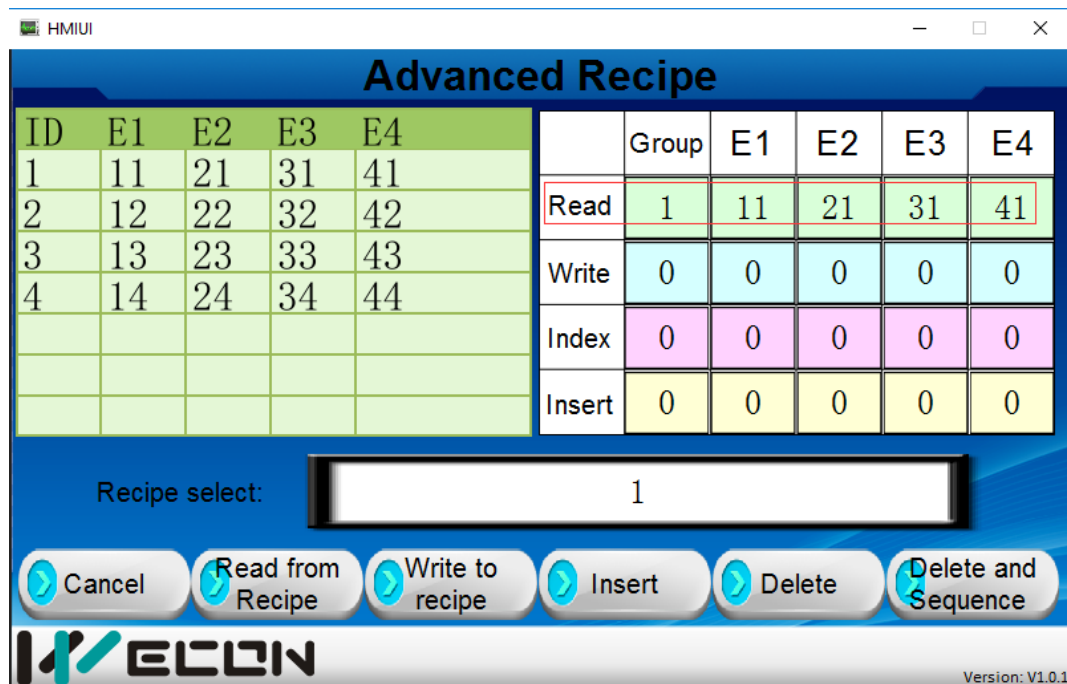

Figure 9
- 3) Click “Read from recipe”, the information of recipe will display in corresponding addresses, as figure 9 shows.